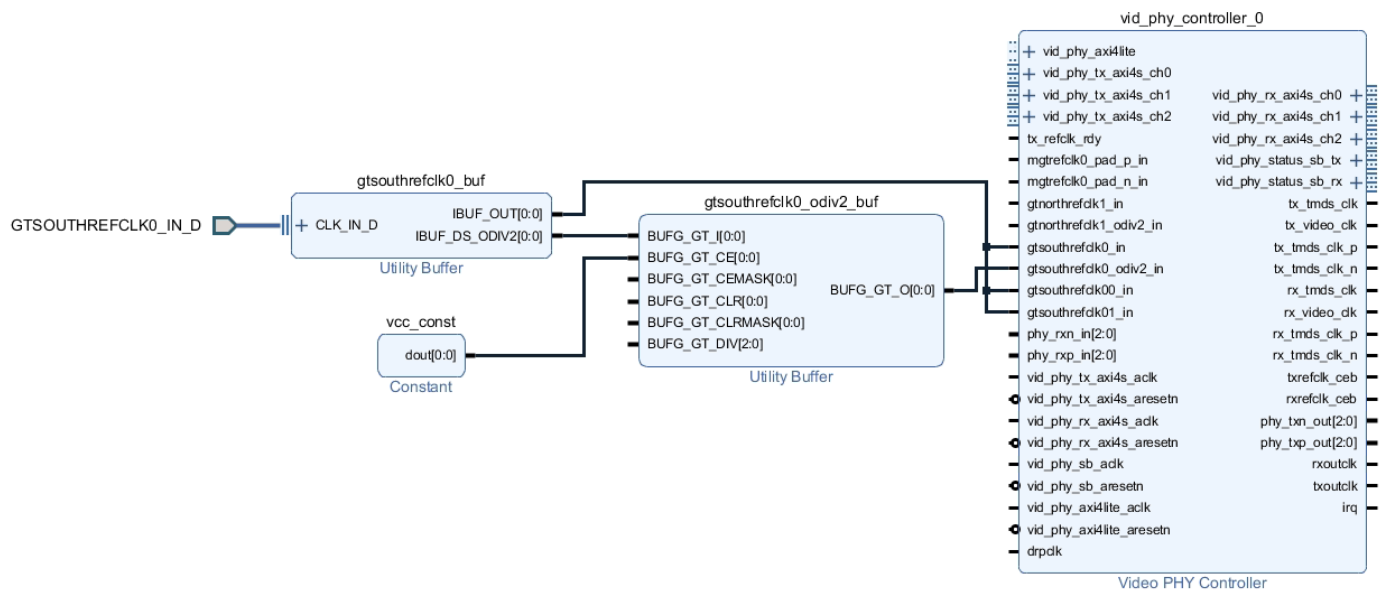

Figure 3-9: South Reference Clock
- `gtsouthrefclk0`: This port is the GT Channel clock and must be connected to the `IBUF_OUT` port of the `IBUFDSGTE` GT input clock buffer. See Figure 3-9.
- `gtsouthrefclk00_in`: This port is the QPLL0 clock and must be connected to the `IBUF_OUT` port of the `IBUFDSGTE` GT input clock buffer. See Figure 3-9.
- `gtsouthrefclk01_in`: This port is the QPLL1 clock and must be connected to the `IBUF_OUT` port of the `IBUFDSGTE` GT input clock buffer. See Figure 3-9.
- `gtsouthrefclk0_odiv2_in`: This port is the fabric clock and must be connected to the `BUFG_GT_O` port of the `BUFG_GT` buffer which is being driven by the `IBUF_DS_ODIV2` output of `IBUFDSGTE` GT input clock buffer. See Figure 3-9.